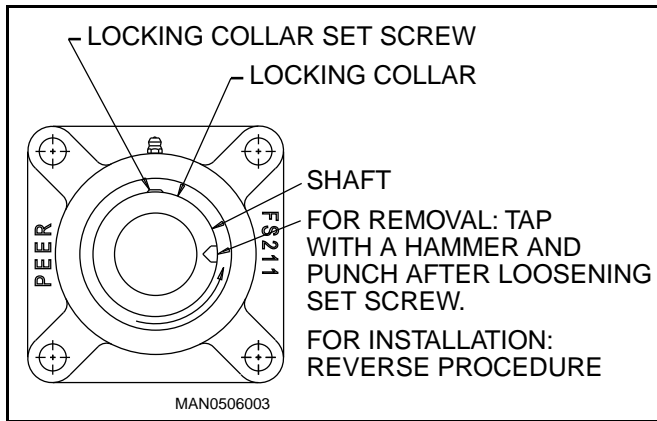

Figure 40. Locking Collar
2. Remove bearing locking collar (see Figure 40).
8. Reinstall bearing locking collar and tighten (see Figure 40).